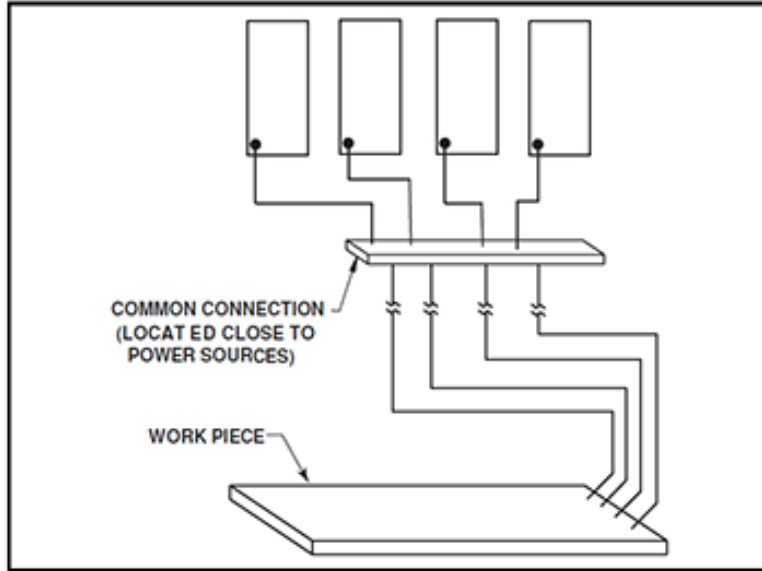

Figure 10 : COMMON CONNECTIONS
**Note:** For parallel and/or multiple arc applications with excessive ground path lengths, a common work connection bus should be used. The common work connection serves to minimize voltage drops associated with resistive losses in the ground paths. It should be made out of copper, and located as close as possible to the power sources (see Figure 10 : COMMON CONNECTIONS on page A-18 ).